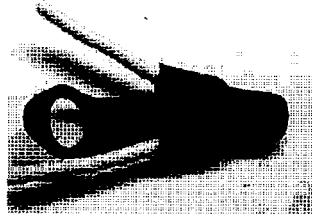
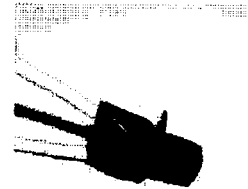
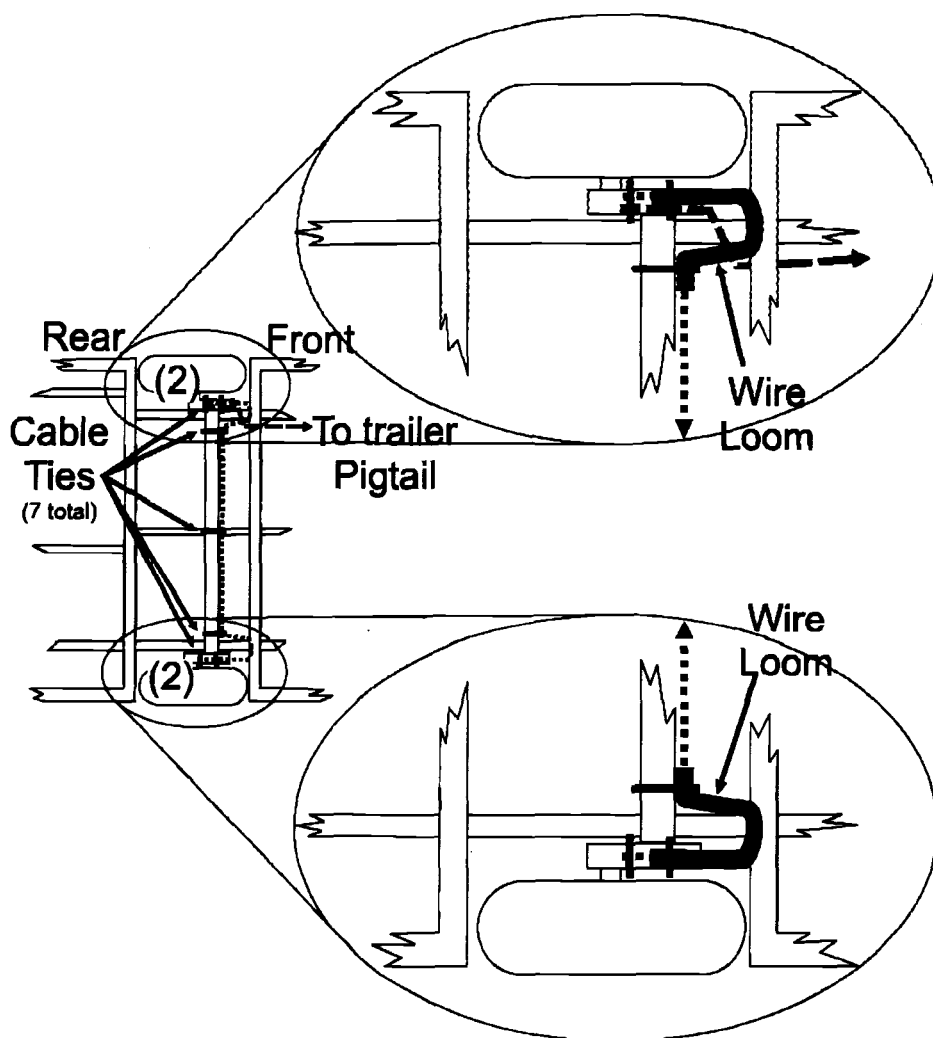

Fig. 4
Fig. 5
Fig. 7
15. Slide a new rubber boot over the crimped wires, wrap the rubber tab between the wires (Fig. 4) and loop the end over the top of the rubber boot (Fig. 5).
17. Install a two (2) foot section of black wire loom cover over the new red coated brake wire. (Fig. 7)
(N) NOTE: Make sure there is enough room for the wire to move and flex with the axle swing arm (approx. one (1) inch slack). See Fig. 7 for approximate cable tie locations.
24. Route the new red coated brake wire along the axle and around the axle mounting plate as indicated in Fig. 7. Mark the wire at the appropriate length to attach it to the brake magnet wires. Cut the wire.
29. Slide a new rubber boot over the crimped wires, wrap the rubber tab between the wires (Fig. 4) and loop the end over the top of the rubber boot. (Fig. 5)
30. Repeat steps 26 & 27 for the two (2) white wires (one from each of the red coated brake wires).
31. Install a two (2) foot section of black wire loom cover over the new red coated brake wire that extend across the axle beam. (Fig. 7)
N NOTE: Make sure there is enough room for the wire to move and flex with the axle swing arm (approx. one (1") slack). See Fig. 7 for approximate cable tie locations.